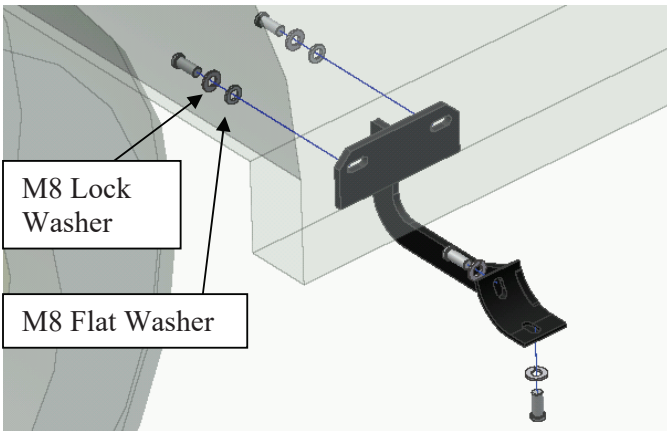

Figure 1.2 - Front and Center Bracket
2. Locate and remove (4) rubber drain plugs located on inside of rocker panel where the front and center mount brackets will be installed.
3. Attach front and center brackets (same bracket) to the inside rocker panel where the drain plugs were removed using (4) M8 – 1.25 x 30mm Hex Head Bolts, (4) M8 Lock Washers, and (4) M8 Flat Washers(see Figure 1.2). Hand tighten.